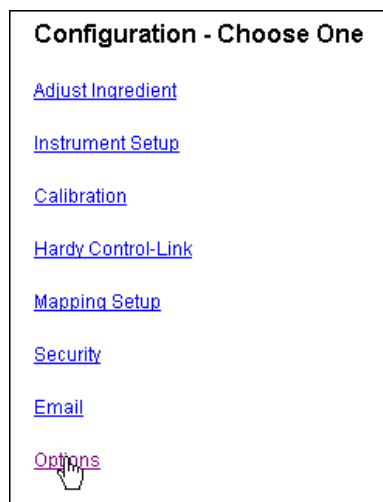

FIG. 70: CONFIGURATION PAGE/SELECTING OPTIONS
- Step 2. Click on Configuration. The Configuration page appears. (See Fig. 70)